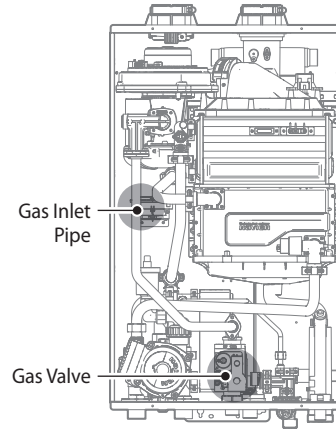

Figure 2. NCB Series Internal Components
8. With the internal components exposed, locate the gas inlet pipe and the gas valve in the middle of the unit, as shown in Figure 2.